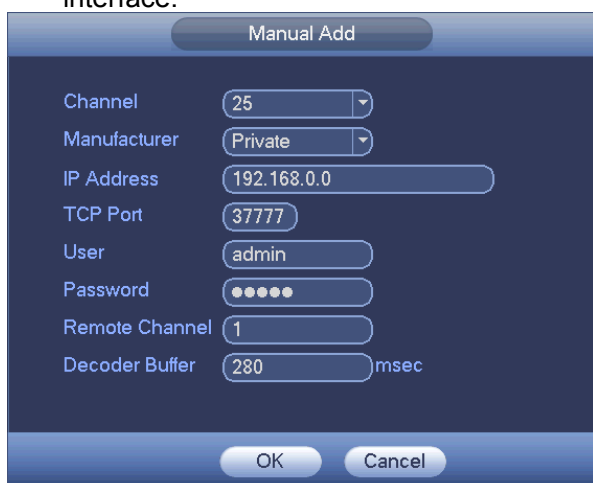

Figure 4-50
Click the Manual Add button; you can go to the following interface. See Figure 4-50.
- You can not add two or more devices in the Manual Add interface (Figure 4-50). Click O.K button, system connects to the corresponding front-end device of current channel on the interface.